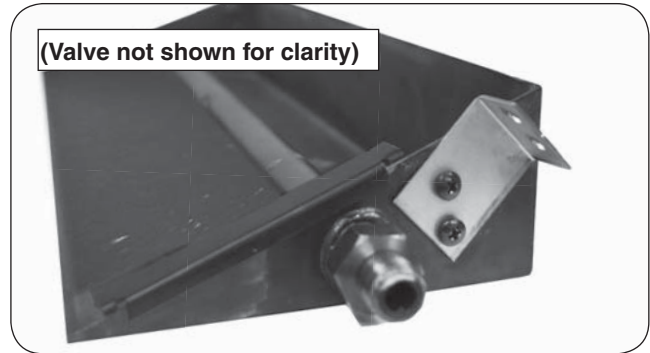

Fig. 6-1 Install pilot bracket
1. The pilot assembly comes with an L-shaped mounting bracket. Using the two black screws, fasten the bracket to burner pan (short side toward the back of the pan) using the pre-drilled holes in the pan (see Fig. 6-1).